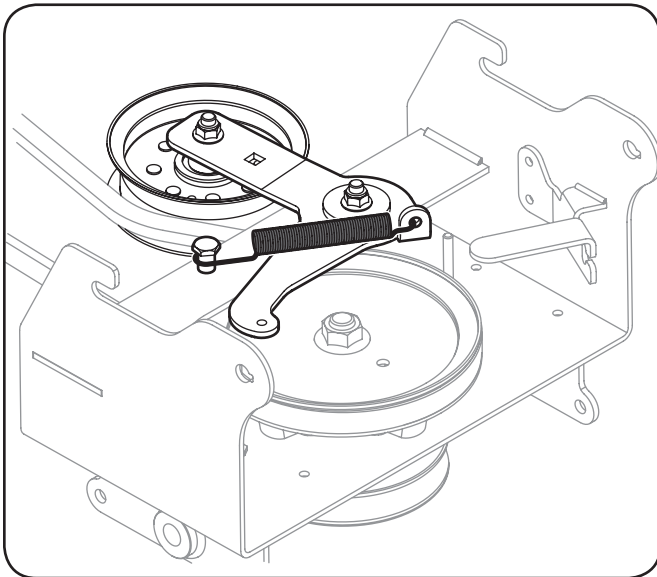

Figure 3-5
- If your tractor is equipped with a **Manual PTO**, attach the 5-inch extension spring to the carriage idler bracket as show in Figure 3-5.